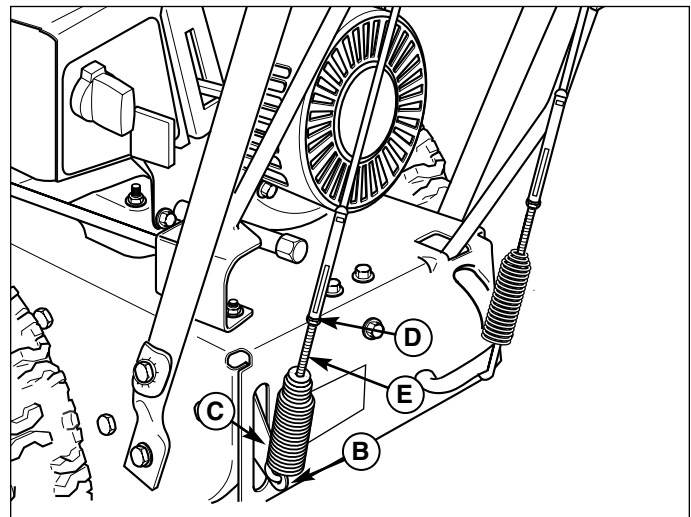

Figure 20. Traction Drive Adjustment
1. With the drive lever released there should be no slack in the cable when moved slightly from side to side, but bellcrank arm (C, Figure 20) remains in fully down position.
2. To adjust tension on the cable loosen adjustment hex nut (D) by holding the adjusting flats (A). Turn the adjustment screw. The adjustment screw is a phillips screw and the head can be held or turned by inserting a screwdriver through the traction drive clutch cable spring.